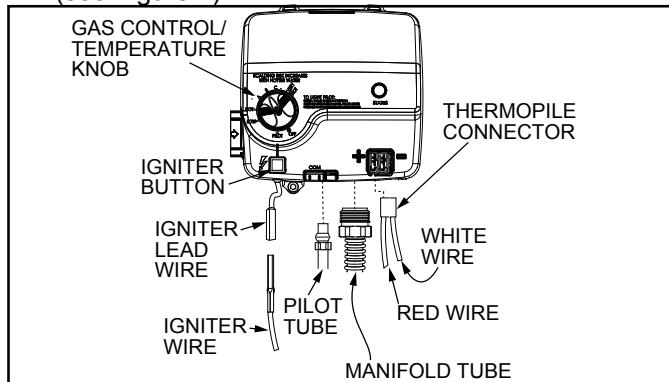

Figure 33
1. Turn the gas control/temperature knob to the "OFF" position (see Figure 31 and Figure 33).
4. Disconnect the igniter wire from the igniter lead wire. Use needle nose pliers to disconnect the thermopile connector. Disconnect the pilot tube (7/16" wrench) and manifold tube (3/4" wrench) at the gas control valve/thermostat (see Figure 33).
4. Disconnect the following from the gas control valve/thermostat: pilot tube (7/16" wrench), igniter wire (from the igniter lead wire), and manifold tube (3/4" wrench) (see Figure 33).
5. Use needle nose pliers to disconnect the thermopile connector from the gas control valve/thermostat (see Figure 33).
- Reconnect the manifold tube (3/4" wrench) and pilot tube (7/16" wrench) to the gas control valve/thermostat (see Figure 33). Do not cross-thread or apply any thread sealant to the fittings.
- Connect thermopile connector to the gas control valve/thermostat (see Figure 33).
- Reconnect the igniter wire (see Figure 33).